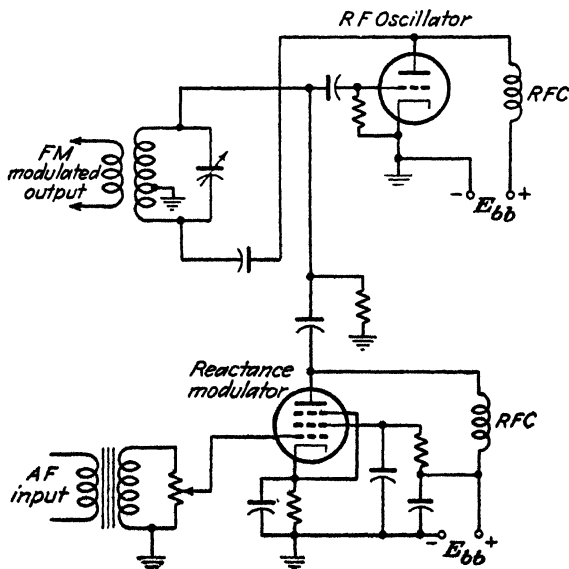

FIG. 4-27.
*Ans.* Figure 4-27 illustrates the commonly used reactance tube modulation in frequency-modulation transmitters.